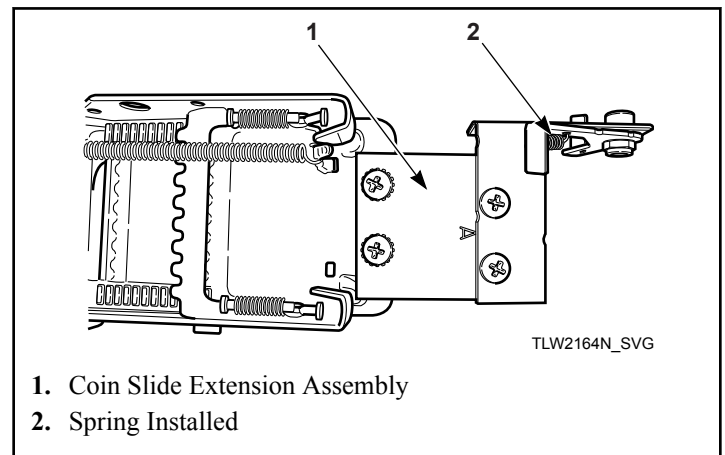

Figure 31
6. Install coin slide extension assembly onto top of coin slide using two remaining screws and lockwashers. Place lockwasher under head of screws, above bracket "A". Refer to *Figure 31*.
3. Install slide extension onto top of coin slide using two screws. Refer to *Figure 31*.